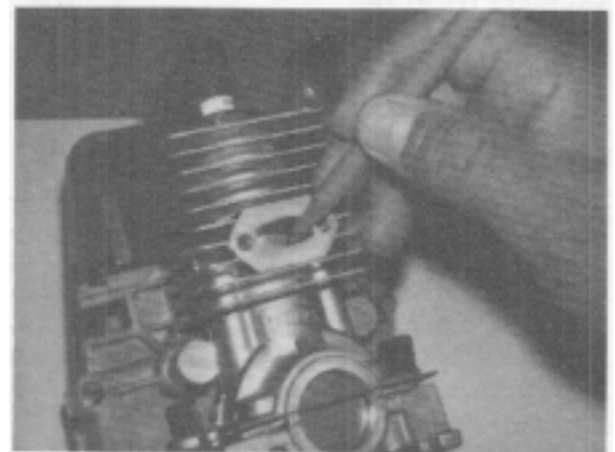

Figure 8
4. Check the cylinder exhaust port. If necessary, remove the carbon deposits from the port using a wooden stick (Fig. 8).